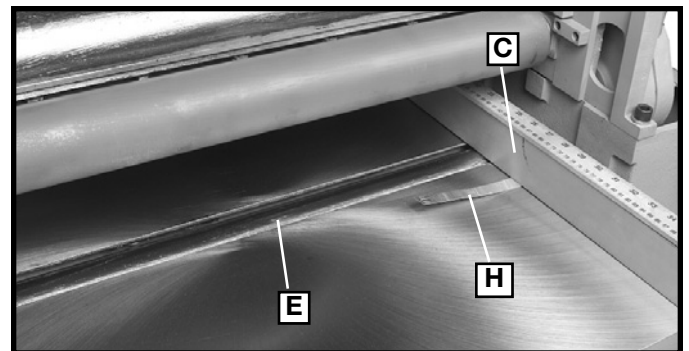

Fig. 23C
1. With a feeler gauge (H) Fig. 23C, measure the gap between the table surface and the straight edge (C) near the outfeed roller (E).